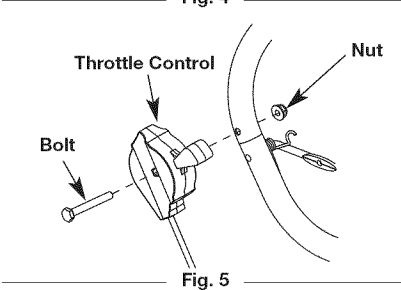

Fig. 5
- Remove the nut and bolt from the throttle control (Fig. 5).
- Align the throttle control with the hole on the right side of the handle (Fig. 5).